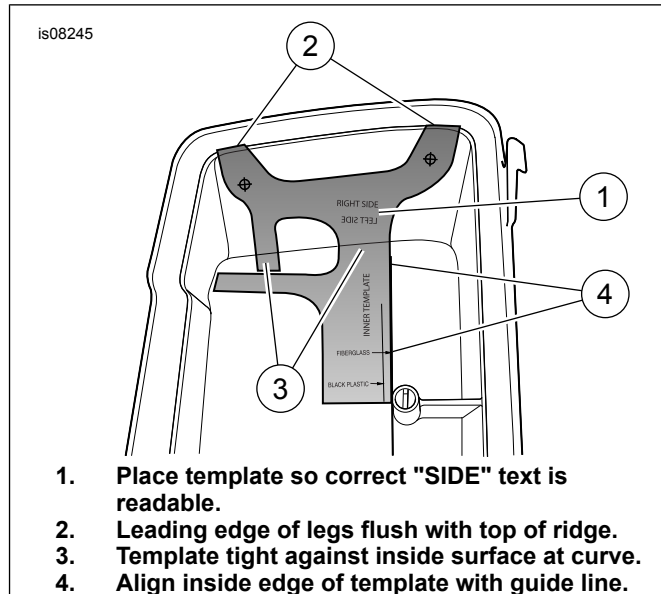
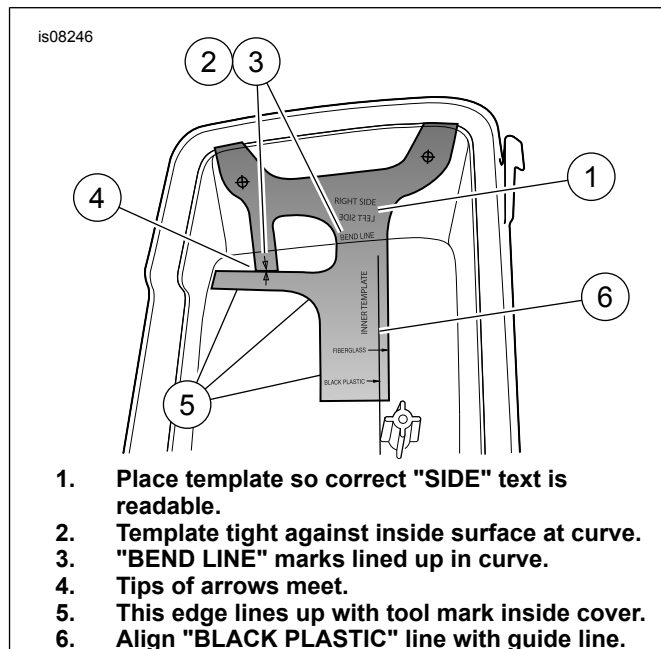

Figure 5. Position the Inner Template (Right Side Fiberglass Cover Shown)
Figure 6. Position the Inner Template (Right Side Black Plastic Cover Shown)
4. See Figure 5 and Figure 6. Obtain the "INNER TEMPLATE" from the kit. Place the template inside the saddlebag cover with the correct "SIDE" text readable, and with the longer straight edge of the template (without the tab) closest to the check strap mounting posts. **For fiberglass covers:** line up the inside edge of the template with the guide line made in Step 3. Slide the template toward the front of the saddlebag cover, allowing it to curve upward until the leading edges of the two legs are flush with the top of the ridge that runs around the lip. Make sure the straight edge of the template is still positioned along the guide line. Fit the entire template tightly to the inside of the cover, work any bulges out of the template, and tape it securely into place on the inside of the saddlebag cover. **For black plastic covers:** align the line labeled "BLACK PLASTIC" on the template with the guide line made in Step 3. Slide the template toward the front of the saddlebag cover, allowing it to curve upward until the line labeled "BEND LINE" and the line on the wide tab fit tightly into the inside leading corner of the cover. Align the tips of the outline arrows printed on the two tabs. Line up the outside edge of the template and the large radius opposite the guide line with the tool mark molded into the inside of the cover. Make sure the "BLACK PLASTIC" line is still positioned along the guide line. Fit the entire template tightly to the inside of the cover, work any bulges out of the template, and tape it securely into place on the inside of the saddlebag cover. **For ALL covers:** Double-check that the template is aligned correctly.